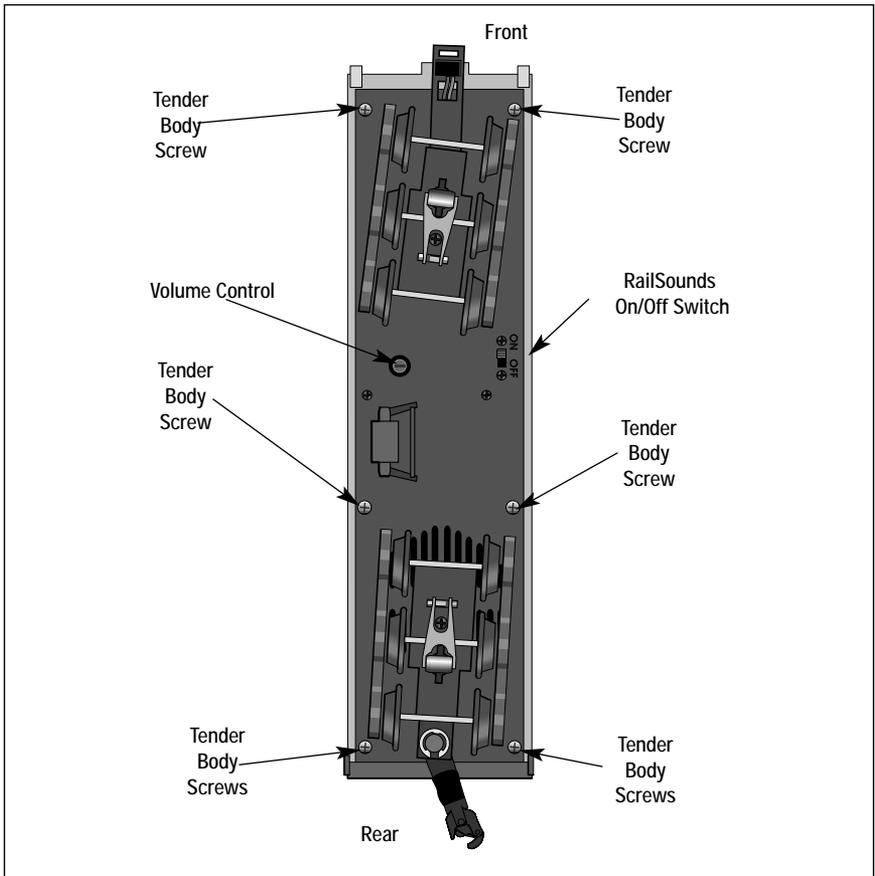

Figure 5. Underside of the tender
- Use the volume control knob, located on the underside of the tender, to adjust sound output. Refer to Figure 5.